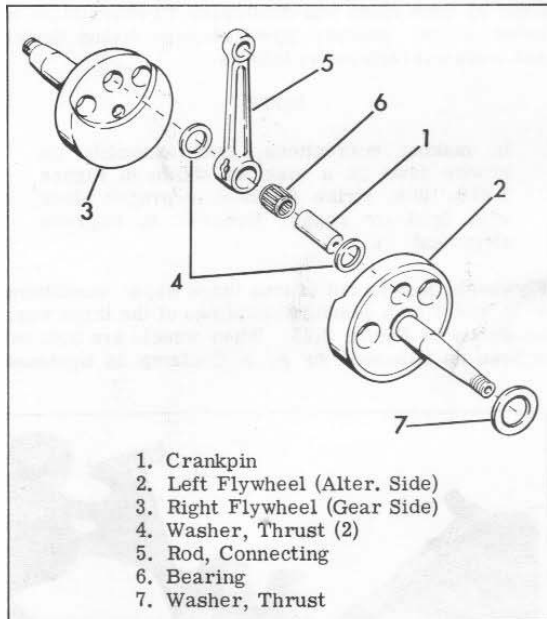
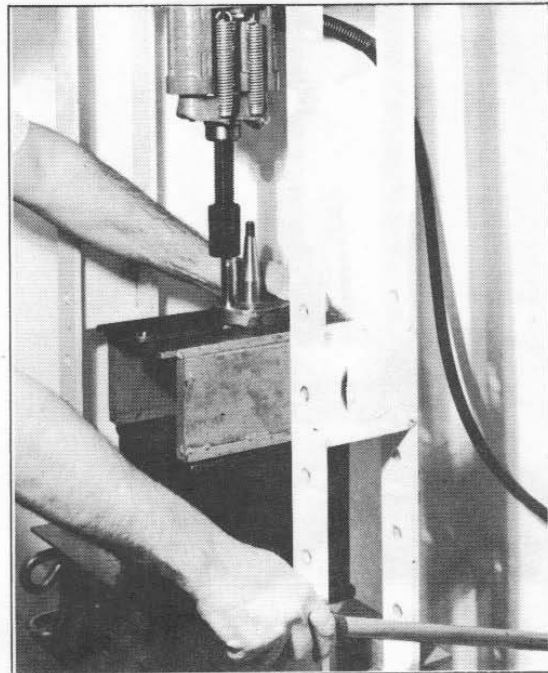

Figure 3.20. Exploded View of Crankshaft
Figure 3.21. Removing Crankpin With Hydraulic Press
Using a hydraulic press (10 ton capacity minimum) and a flat press plate, press crankpin (1), Figure 3.20, from either the right or left crankshaft flywheel (3) or (2) as shown in Figure 3.21. Remove connecting rod (5), bearing assembly (6), and bronze washers (4) from crankpin. Press crankpin out of remaining flywheel. Retain both bronze thrust washers (4) for reassembly.
Place outside surface of either crankshaft flywheel (2) or (3), Figure 3.20, on flat press plate. Press crankpin (1) into hole in flywheel until pin is flush with outside flywheel surface. Release press, but keep parts in place.
After reinstalling crankshaft in crankcase according to previous procedure, crankshaft end play should be checked to see that it is within limits of 0.002 to 0.004 inch (0.05 to 0.1 mm). This end play is obtained by using the correctly sized thrust washer (7), Figure 3.20, on the left flywheel shaft between left flywheel and left main bearing. Thrust washer (7) is available in a number of different thicknesses in 10ths of a mm increments.